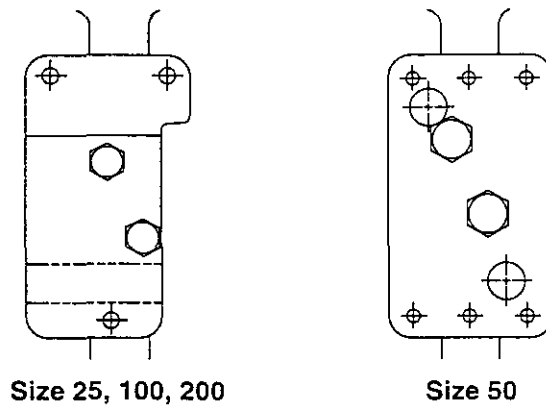

Figure 4: Mounting Bracket
2. Mount the positioner bracket to the yoke leg which has the stroke indicator plate attached to it and in the correct position as shown in Figure 4.